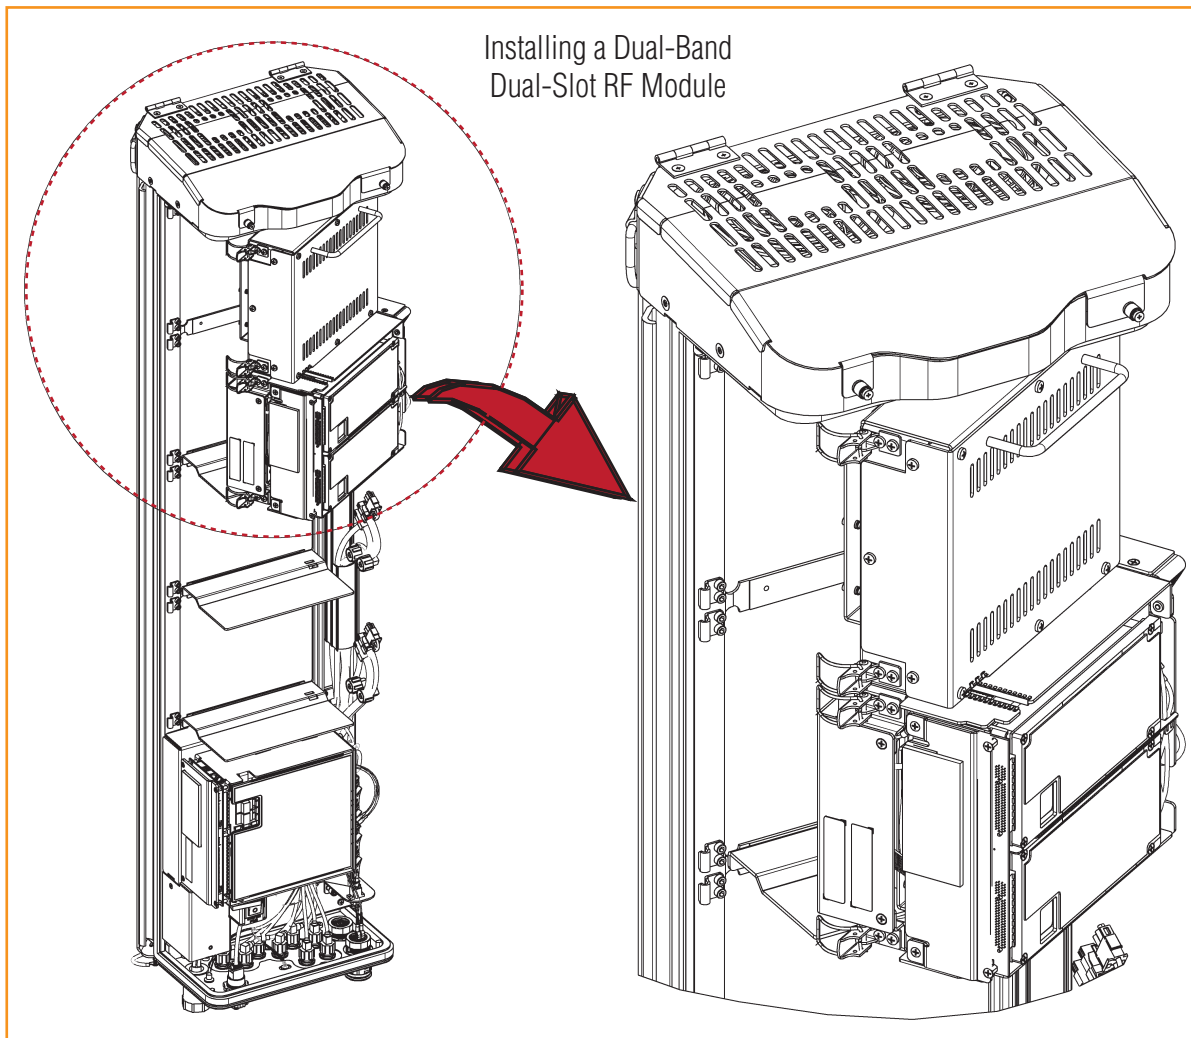

Figure 13. Installing a Dual-Bay RF Module
- Dual-Bay RF Module: Figure 13 on Page 24